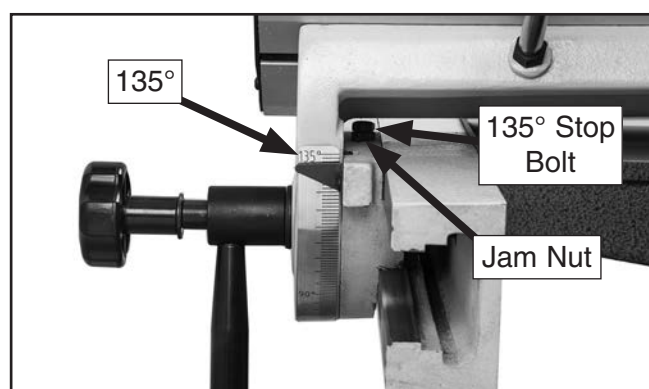

Figure 75. Location of 135° stop bolt and jam nut.
2. Check angle scale to verify 135° setting (see **Figure 75**).
- If fence *does not* stop exactly at 135°, stop bolt (see **Figure 75**) requires adjustment. Proceed to **Step 3**.